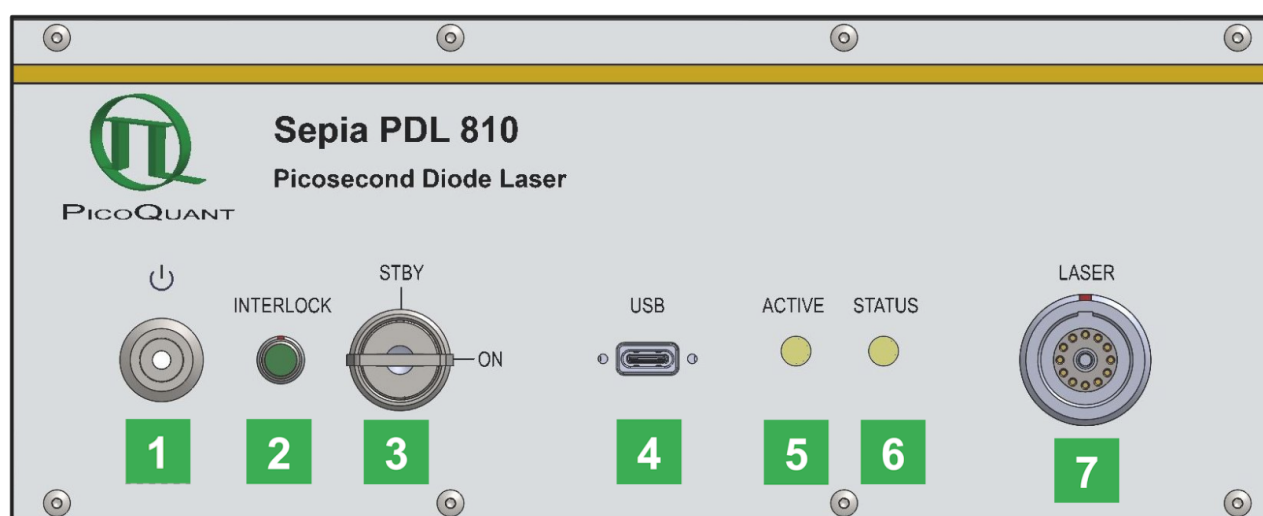

Figure 7: *Sepia PDL 810* Front panel
- The *Sepia PDL 810* is controlled from a PC using a USB 2.0 connection, see item **4** in Fig. 7
- Key switch (item **3** in Fig. 7) is set to the “STBY” (vertical) position
Use only laser heads of the *LDH*, *LDH-FA* or the *PLS* series supplied by PicoQuant. Connect the laser head via the large connector on the front panel of the *Sepia PDL 810*, see item **7** in Fig. 7.
Fig. 7 shows the indicators and controls available on the front panel of a *Sepia PDL 810*.
Do NOT look into the laser optics when the laser is switched ON, which is indicated by the “ACTIVE” LED, see Fig. 7!